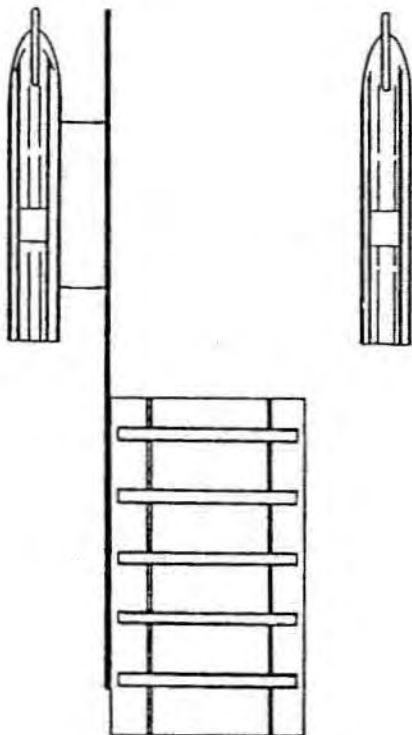
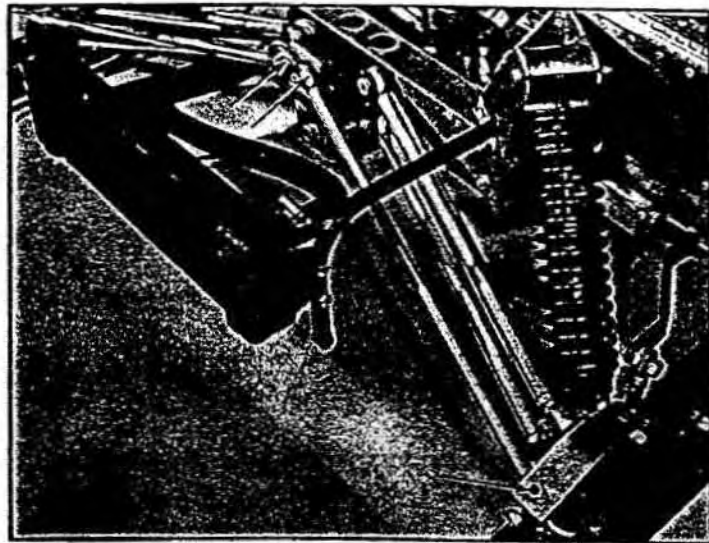

Figure 2
Figure 3
3. With a straight edge placed alongside the track, measure the distance from both ends of one ski. The distance at both the front and back of the ski should be equal, Fig. 2. When one ski is parallel with the track, measure across to the opposite ski to ensure that it is also parallel with the track. If adjustment is needed, the tie rods, Fig. 3, should be adjusted accordingly.